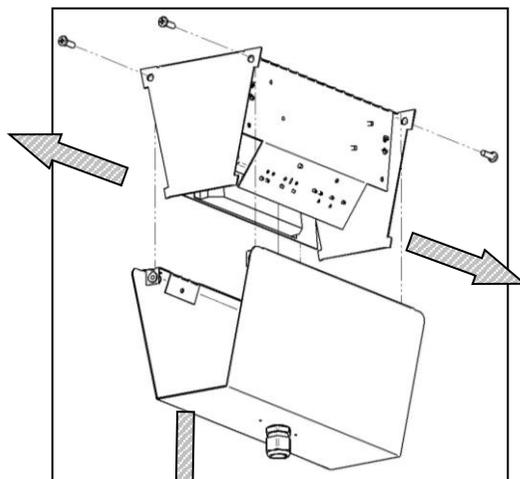

Fig. 1
1. Remove the ceiling rose from its packaging. Remove the four cover retaining screws and lift off the cover. The cover is retained on safety cords. Keep the screws safely until required. (fig.1)